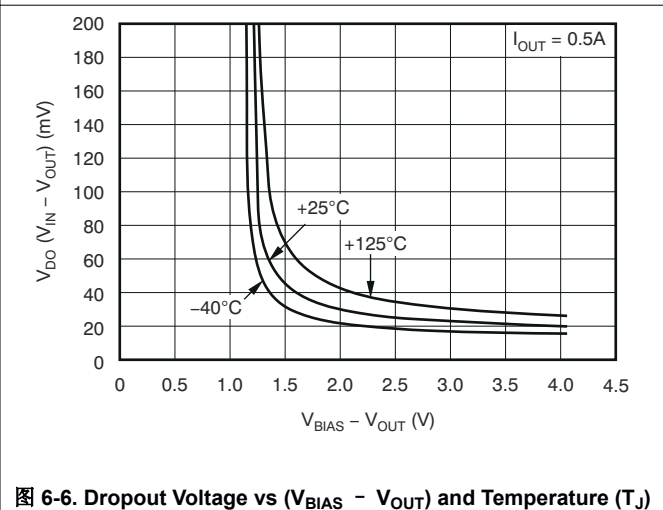

图 6-6. Dropout Voltage vs $(V_{BIAS} - V_{OUT})$ and Temperature (T_J)
(1) Adjustable devices tested at 0.8 V; resistor tolerance is not taken into account.
(2) Dropout is defined as the voltage from V_{IN} to V_{OUT} when V_{OUT} is 3% below nominal.
(3) 3.25 V is a test condition of this device and can be adjusted by referring to Figure 6-6.